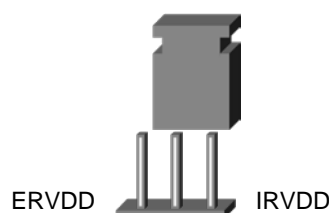

Fig. 4 RVDD select jumper socket (J1)
- RVDD is selected by the RVDD selection jumper socket (J1) for the power supplied from the power supply generated inside the SDCB3 or the external RVDD input pin. The RVDD selection jumper socket (J1) configuration is shown in Table 5 and Fig. 4.